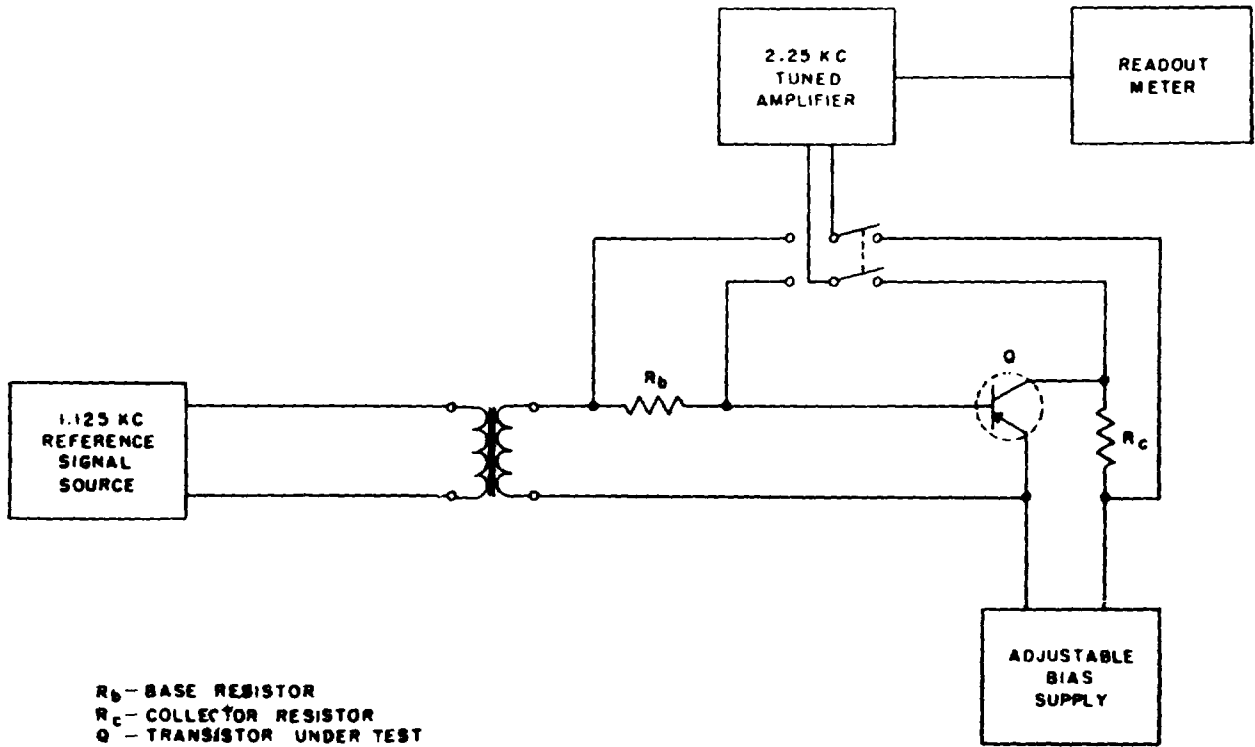

Figure 1-2. Transistor Tester, Functional Block Diagram
(1) Figure 1-2 illustrates a functional block diagram of the tester when measuring beta. The transistor beta parameter is defined as the current gain of a common - emitter transistor configuration, and is expressed by the equation
(4) As shown in figure 1-2, a 1, 125-kc reference signal is applied to the base-emitter junction of the test transistor. The 2.25- kc (second harmonic) tuned amplifier is switched across collector load resistor  $R_c$ , and the reference signal is adjusted for 1-milliamperere (red line on readout meter) average d-c collector current. The tuned amplifier is then switched across the series base resistor ( $R_b$ ) and the readout meter indicates the value of  $\beta$ .
(5) For the transistor tester to retain its specified accuracy, the impedance loading across the emitter-base and emitter-collector junctions of the test transistor must be 500 ohms or greater. In the event this d-c resistance requirement is not met, a front - panel warning light indicates this low-resistance shunt path; but if an impedance of 500 ohms or more is present the specified accuracy is retained regardless of the lighted lamp. This same warning light also indicates a shorted transistor.
(6) The readout meter (minus its associated amplifier ) measures transistor leakage current ( $I_{co}$ ) when the transistor is disconnected from the circuit. This facility provides an additional check on transistor degradation.